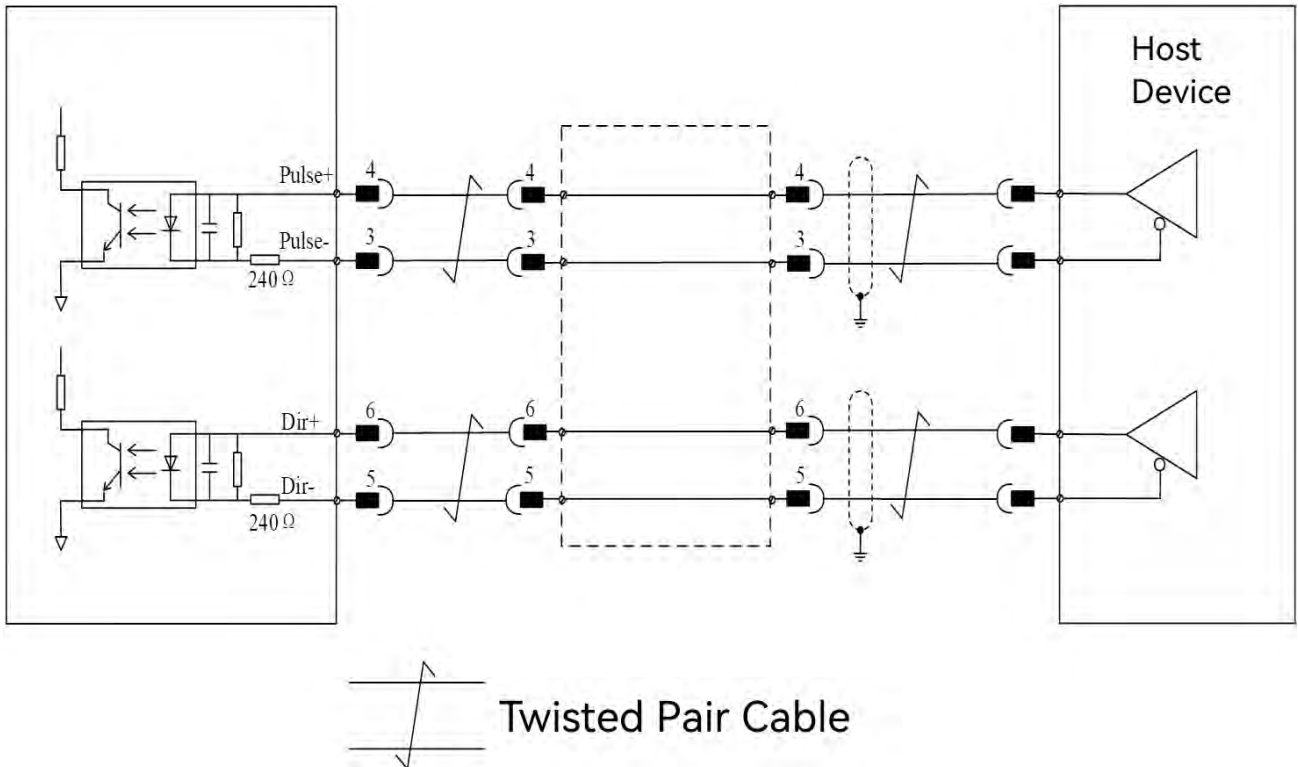

Figure 6-13 5V difference pulse command input terminal wiring diagram
(1) 5V difference mode (as shown in Figure 6-13):